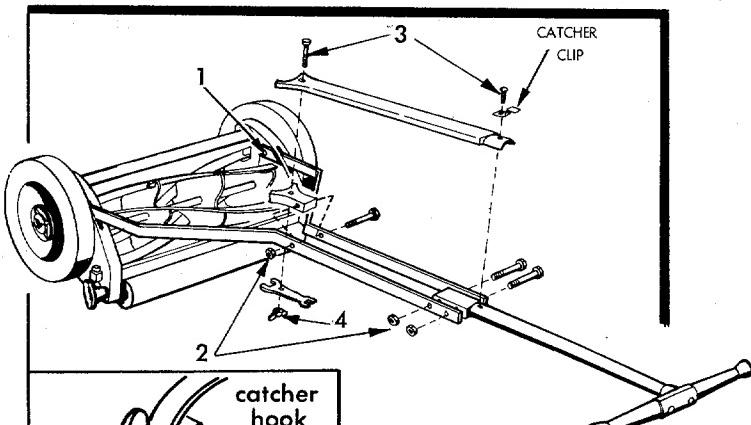

FIG. 1
1. Attach handle brace (1). (Fig. 1)
2. Attach handle brace spacer and handle as shown, tighten nuts (2) securely.
3. Attach cover plate and grass catcher clip with screws (3).
4. Convenient storage is provided for adjusting wrench. Attach to underside of handle spacer with wing nut (4) as shown.
5. If grass catcher is used, attach catcher hooks on inside of frame, under HEAD of roller bracket bolt, as shown in Fig. 1.